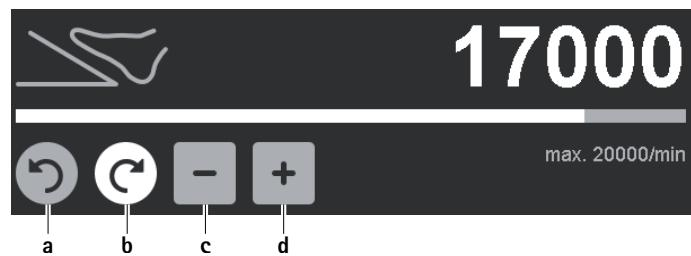

Fig. 6 Changing the maximum speed setting/rotational direction
- ▶ To change the rotational direction: Activate the inactive, gray rotational direction button for right rotation/left rotation **a/b**, see Fig. 6. The rotational direction is changed from right rotation to left rotation and vice versa.